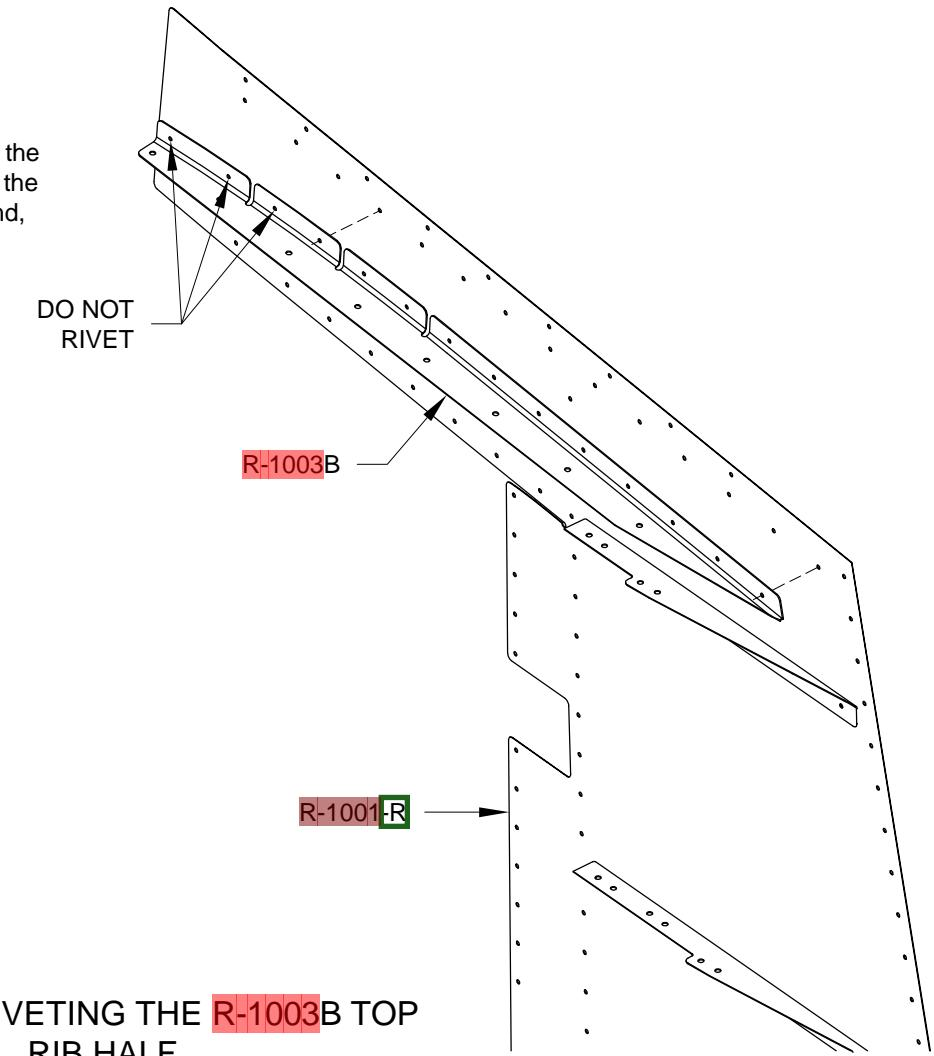

FIGURE 2: RIVETING THE R-1003B TOP RIB HALF
Step 2: Rivet the R-1003B Top Rib half to the R-1001R Skin as shown in Figure 2. Use the rivets called out on Page 7-12, Figure 3 and, once again, leave the forward three holes open.